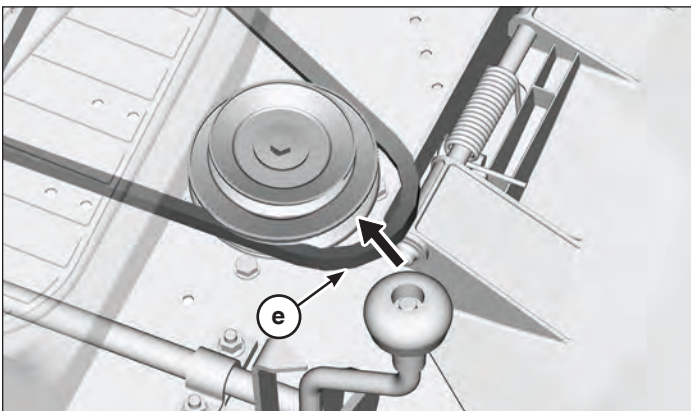

Figure 9
4. Re-install mower drive belt (e, Figure 9) onto the lower pulley of the pulley assembly (f).